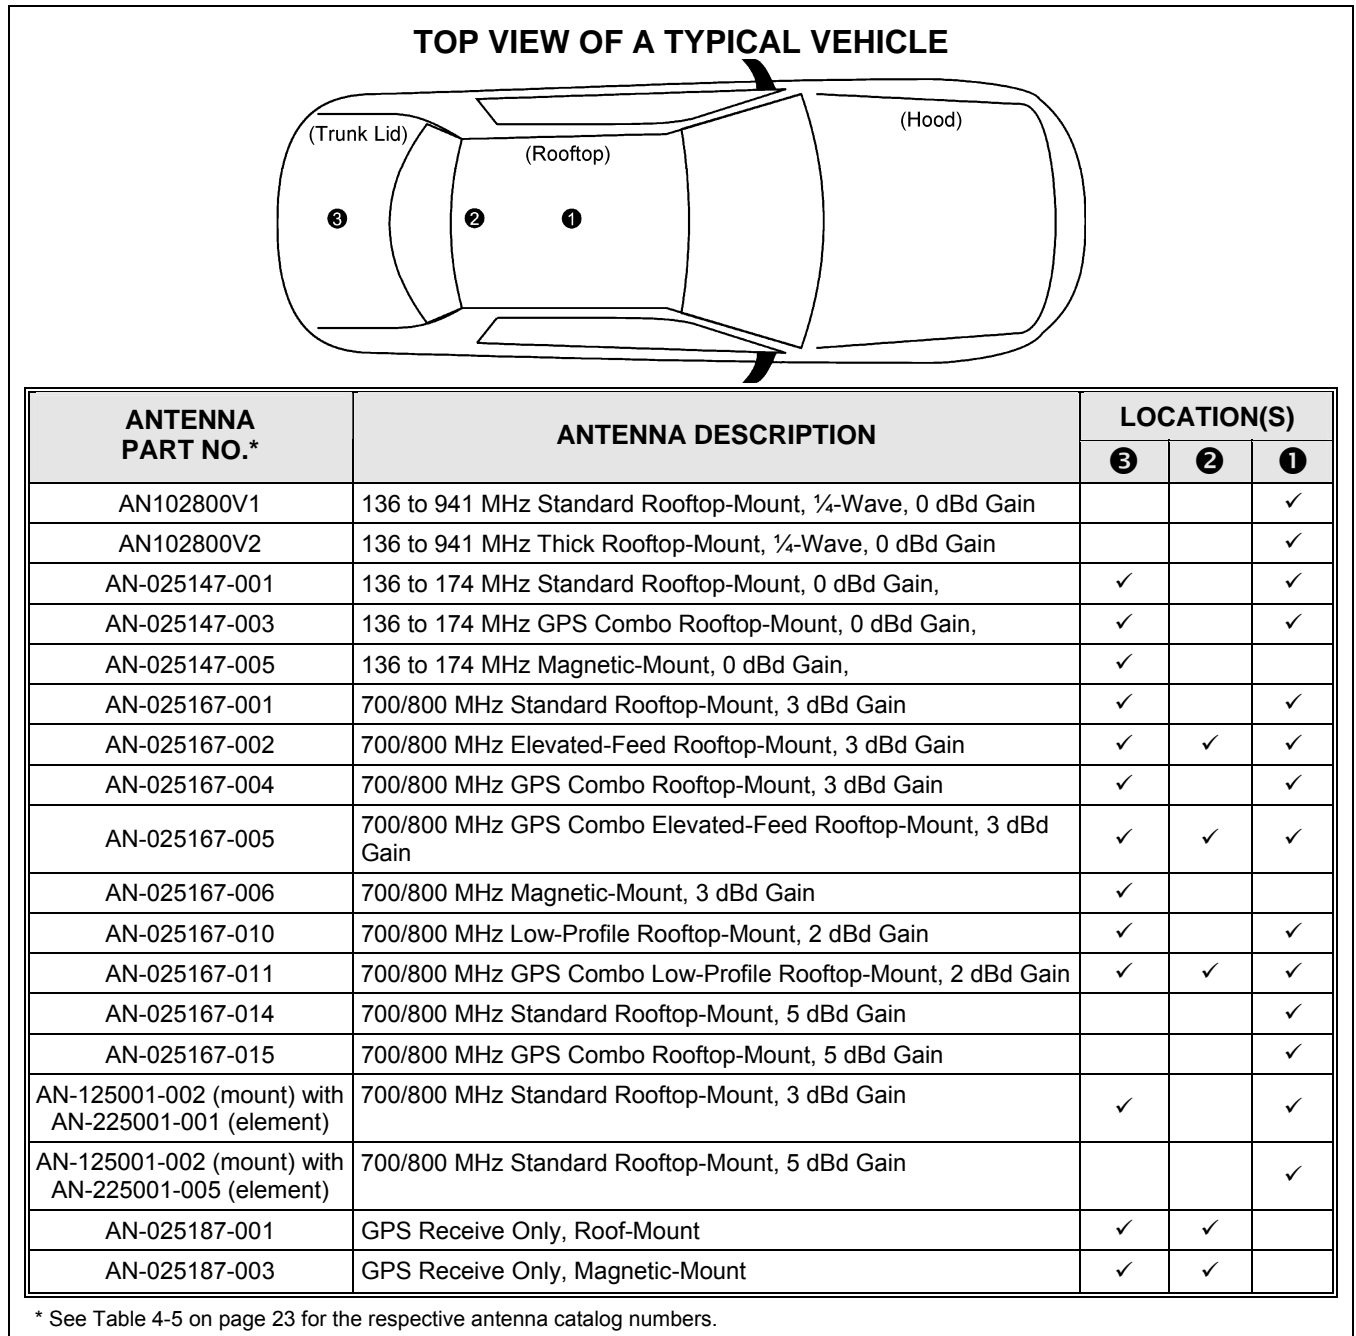

Figure 6-1: Recommended Antenna Mounting Locations with Antenna Part Numbers
At this time, review all information presented in the REGULATORY AND SAFETY INFORMATION section of this manual (see page 6). A transmitting antenna must be installed in accordance with the guidelines presented in the REGULATORY AND SAFETY INFORMATION section. Use Table 1-1 (for VHF radios) and Table 1-2 (for 700 and 800 MHz radios) and Figure 6-1 as a guide for determining the best possible mounting configuration/location in order to reduce human exposure to radio frequency (RF) electromagnetic energy during transmit mode.
Antennas must be mounted in one of three possible locations on the vehicle. Figure 6-1 shows the recommended locations and antenna part numbers. Also, see Table 4-5 for additional information. Always follow the antenna manufacturer's instructions when mounting an antenna.
The center of the vehicle's roof is the best location for a rooftop-mount antenna (location ❶ in Figure 6-1). For optimal performance, the mounting area under the antenna must be a flat with a minimum radius of six (6) inches of metal ground plane. It must be located directly in the center of the roof to minimize human exposure to RF electromagnetic energy. Other obstructions such as a light bar or another antenna may prevent the antenna from being mounted in the direct center of the roof. In this case, the antenna should be mounted a minimum of one foot away from and behind the obstruction but in the middle of the roof with respect to the left and right sides of the vehicle (location ❷ in Figure 6-1).
Certain vehicles do not allow for the antenna to be placed in the center or center-rear of the roof. In this case, the next best location for the antenna is in the direct center of the trunk lid (location ❸ in Figure 6-1). In this case, an elevated-feed-point antenna is recommended. Although this type of antenna does not require a metal ground plane, it must be located directly in the center of the trunk lid to minimize human exposure to RF electromagnetic energy.
Table 4-5 (page 23) and Figure 6-1 (page 31) list the mobile radio antennas available for use with the radio. As presented in the previous section, various mounting locations exist. Optimal performance is achieved via a rooftop antenna mounted in the direct center of the motor vehicle's roof. The following mobile antenna installation procedure is recommended:
A combination (“combo”) antenna kit includes a GPS antenna built into the base of the mobile antenna. Refer to Table 4-5 (page 23) and/or Figure 6-1 (page 31) for available combo antennas.